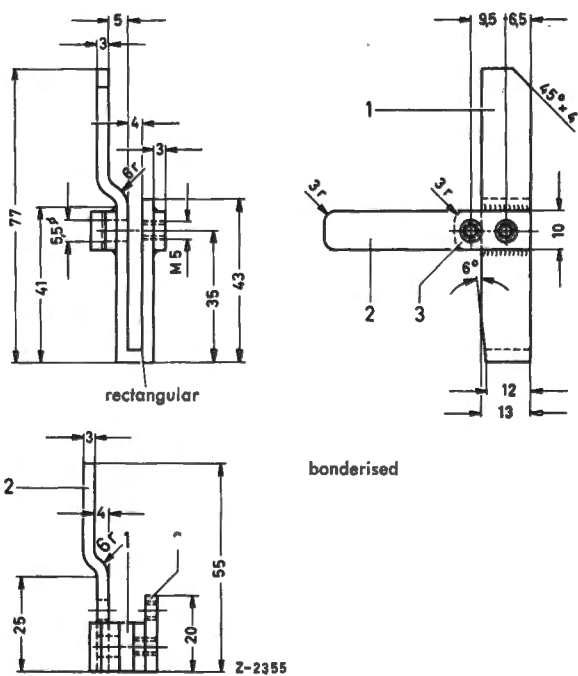

Fig. 00-16/6
1. Place Graduated Disk 111 589 04 23 on the axle of the throttle valve shaft and fasten it to the throttle valve lever (Fig. 00-16/5). Then fasten the wire pointer by means of the upper left fixing nut for the venturi control unit and bend it in such a way that **with the throttle valve completely closed** it points to the 0° mark.